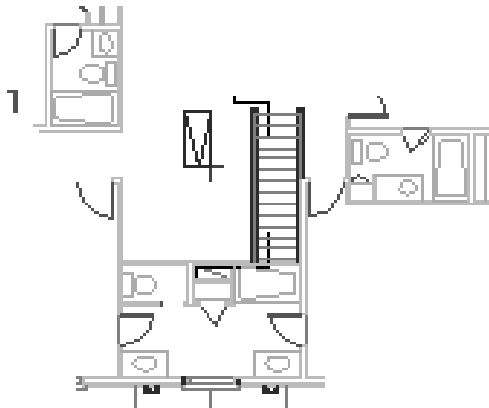

**Figure 19-12:** The clipped xref.
11. Save your drawing. It should look like Figure 19-12. (If you have AutoCAD LT, you still see the entire xref.) Keep the drawing open if you're continuing on to the next exercise.